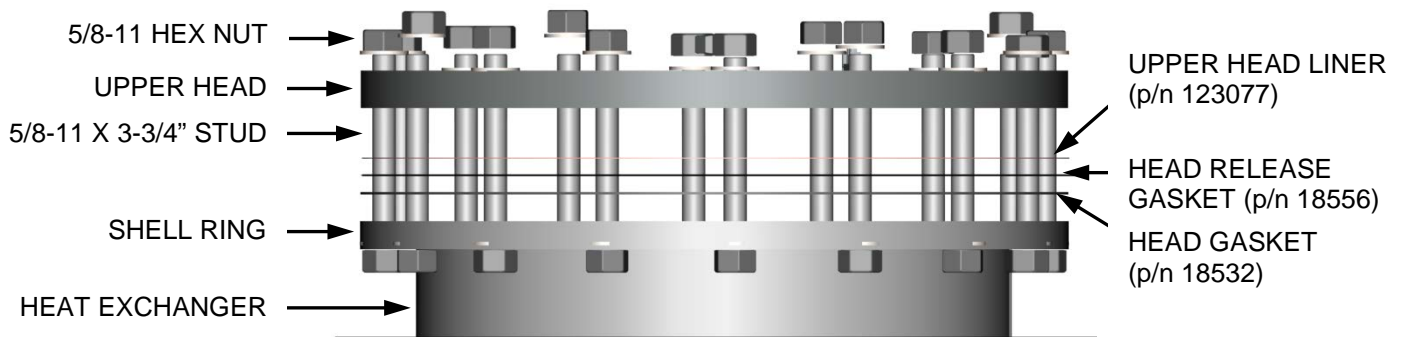

Figure 6-7. Flat Style Head Configuration
The waterside of the heating surfaces may be inspected by removal of the top heater head (see Figure 6-7). Prior to performing the inspection, ensure that the following replacement gaskets are available:
5. Remove the nuts and cap screws from the upper head. Remove the upper head and upper head-liner, (See Figure 6-7).